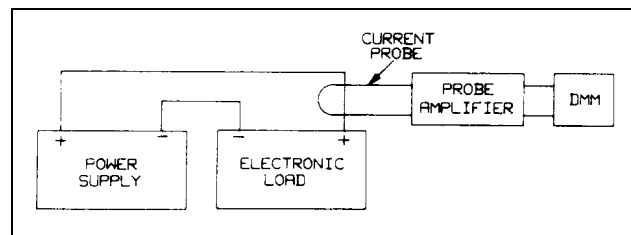

Figure 2-3. Test Setup C
- Connect the Electronic Load, power supply (Agilent 6032A or equivalent), DMM, and current probe as shown in Figure 2-3. Set power supply for 10V and >10A.